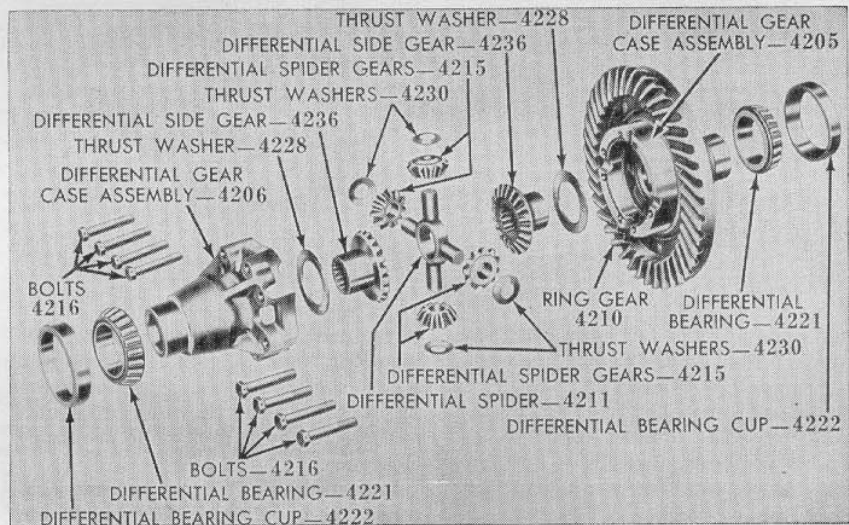

Fig. FO65—Exploded view of differential as used in models 2N-8N-9N. Bearing cups (4222) are mounted in axle housings.
85. OVERHAUL. Remove differential assembly as described in paragraph 84. Remove eight differential case bolts and separate the two case halves. See Fig. FO65. Remove spider, differential pinions and thrust washers. Remove differential side gears and thrust washers. Check differential bearings and renew if required. If bearing cups are to be renewed, both axle housings must be off the transmission and shafts removed from hous-